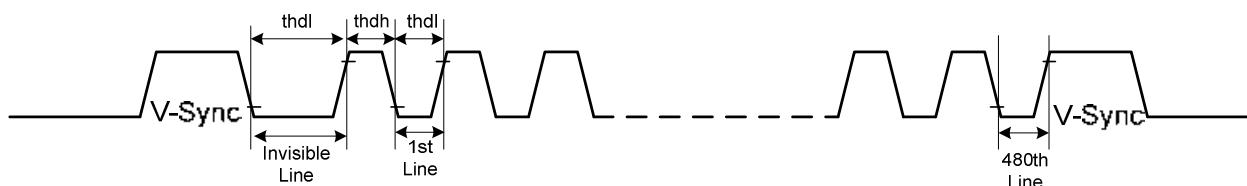

**Figure 130: Tearing Effect Line Mode 1**
**Mode 1**, illustrated in Figure 130, the Tearing Effect output signal consists of V-Sync information only: